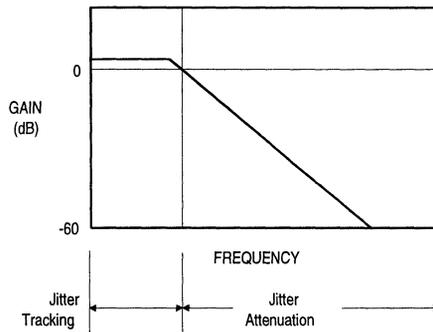
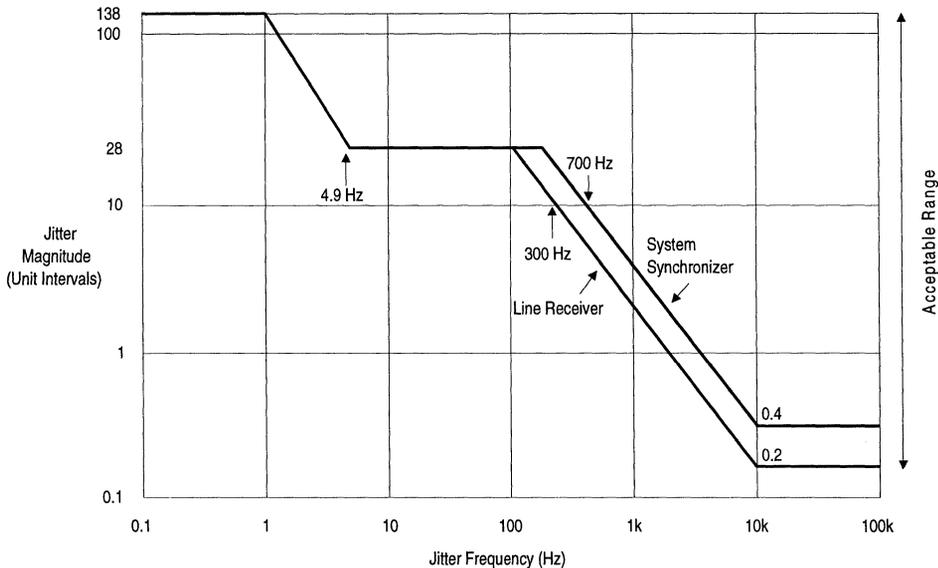

Figure 6 - Jitter Transfer of PLLs
Figure 8 - 1990 AT&T 62411 Jitter Tolerance Requirement
- 4) Excessive Input Jitter amplitude (Figure 8).
Due to the characteristics of the phase-lock loop technology used in trunk cards and system synchronizers, jitter can be more readily filtered than can wander (Figure 6). Normally, most wander which is input on a timing reference source will be relayed to all downstream systems.
Input Jitter Tolerance: Jitter tolerance is specified for both the T1 trunk card and for the synchronizer. In fact, the tolerance requirements are more stringent for the synchronizer than the line card. The more stringent specifications ensure that the synchronizer, which is a critical system element, is extremely robust. The tolerance curves are shown in Figure 8.
formance is important. FIFO depth requirements are defined by the buffer length necessary to tolerate the jitter (wander) without overflow/underflow. The exact length needed to meet the requirements of Figure 8 depends upon the jitter transfer function of the PLL (Figure 6). The PLL will track jitter or wander at low frequencies, and only requires a FIFO long enough to contain the maximum input jitter amplitude possible in the jitter attenuation range.